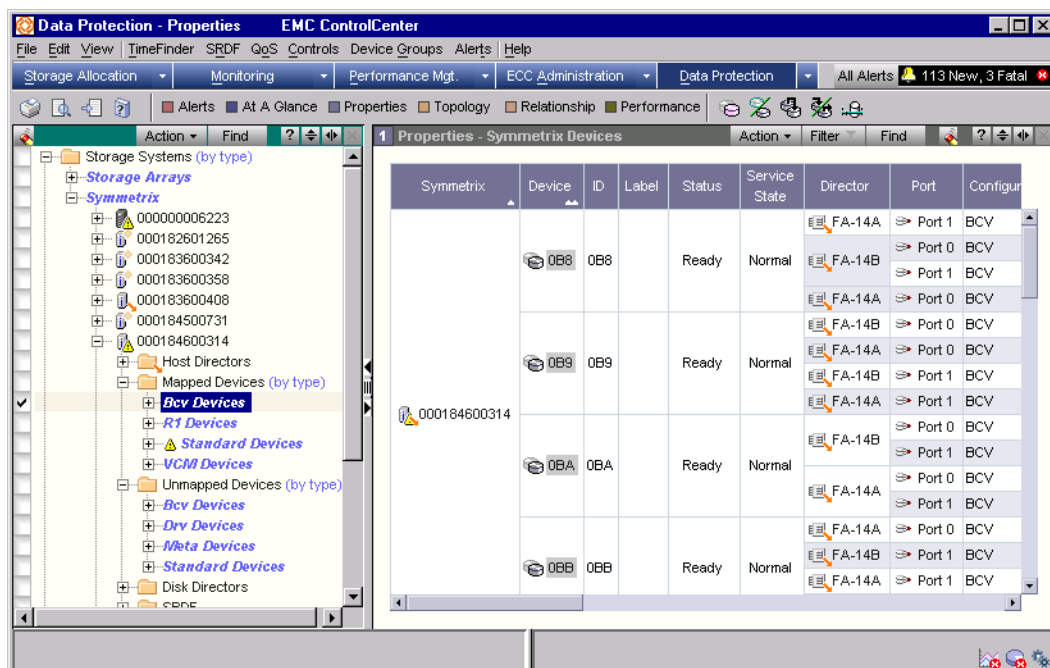

Figure 11-10 Device Properties
2. Expand the **Mapped Devices** folder, right-click the **BCV Devices** folder (if present), and select **Properties**. The mapped BCV device properties are displayed in the Properties view (Figure 11-10).